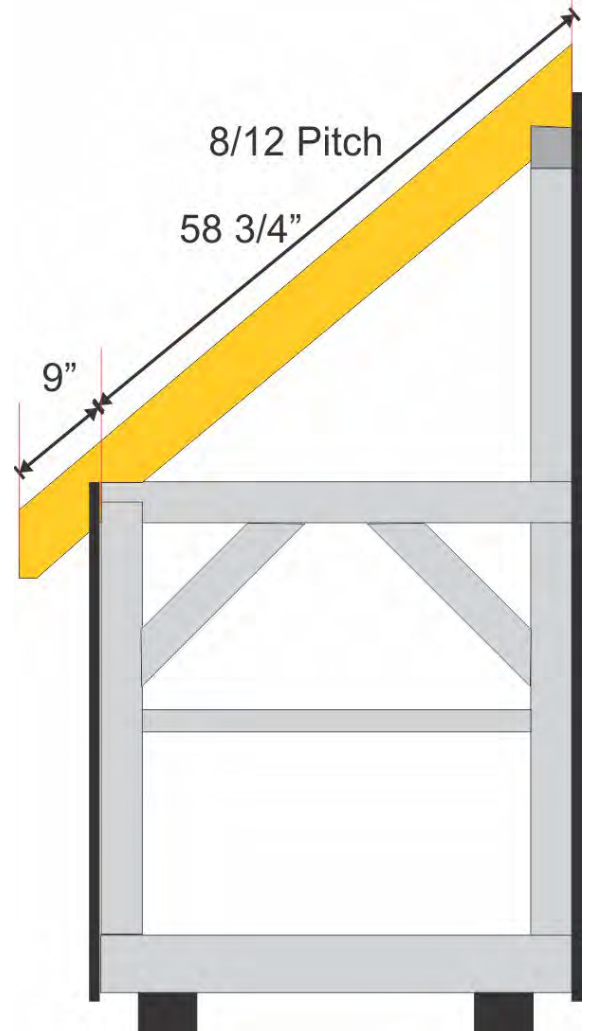

Figure 1
Step 1. Attach rear rafters, one at each end. Using two 16d framing nails on each 6" side of the rafter toenail it into the top plate beams. Figure 1.